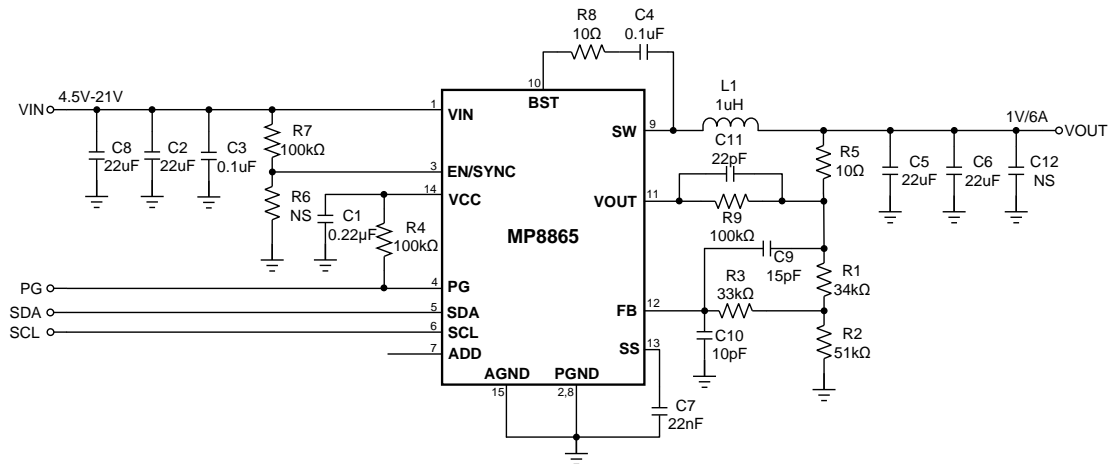

Figure 15. 12V Input-1V/6A Output
11) The recommended layout is based on Fig. 15 in the "Typical Application Circuits" section on page 26.